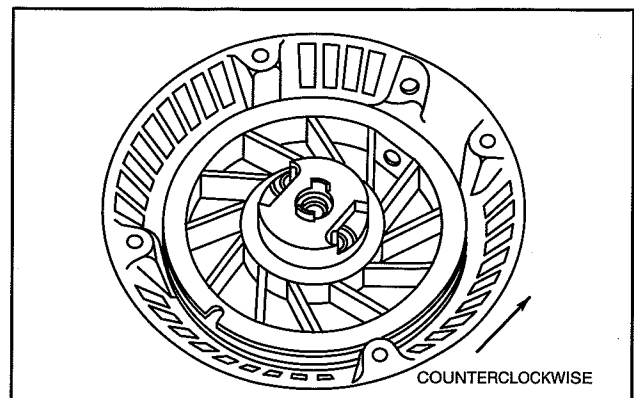

Fig. 13 – Engage Spring – Current Style
3. Rotate pulley counter clockwise until slight resistance is felt, indicating that spring is engaged in spring tab in housing, Fig. 13.